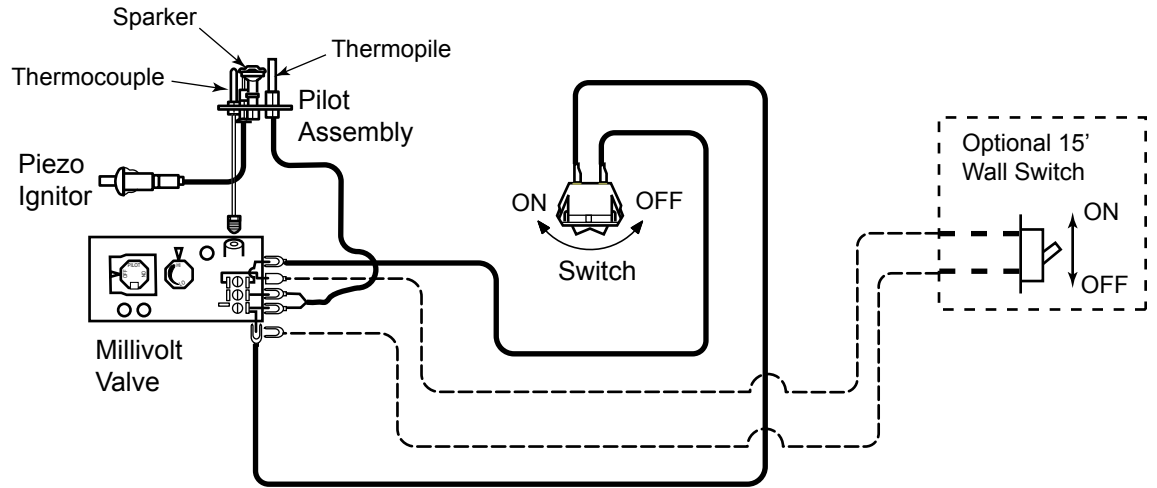

Figure 45 - Wiring Diagram for Wall Switch
A remote wall switch and up to fifteen (15) feet of 18 Ga. wire may be used with this appliance. Attach the wall switch in a junction box at the desired location on the wall. *Figure 45.* Do not extend beyond the wall switch wire length provided.